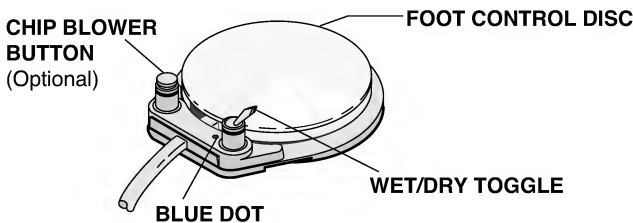

Figure 6. Foot Control
3. Move the wet/dry toggle on the foot control (see *Figure 6 on page 9*) to the OFF position, away from the blue dot).
3. Move the wet/dry toggle on the foot control (*see Figure 6 on page 9*) to the OFF position, away from the blue dot.
3. Move the wet/dry toggle on the foot control (*see Figure 6 on page 9*) to the ON position, *toward the blue dot*.
The foot control is equipped with a wet/dry toggle and can be equipped with an optional chip blower button (see Figure 6).